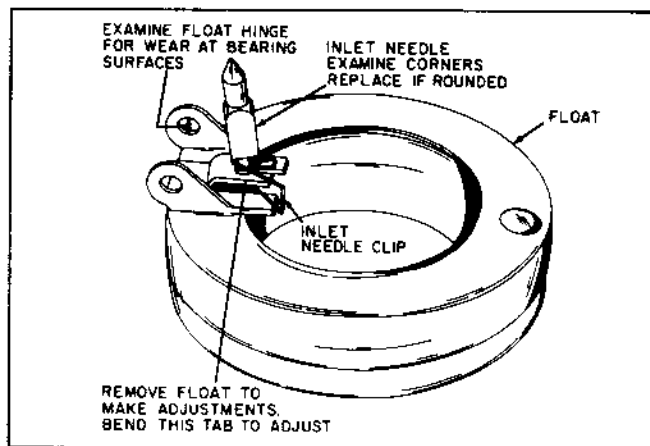
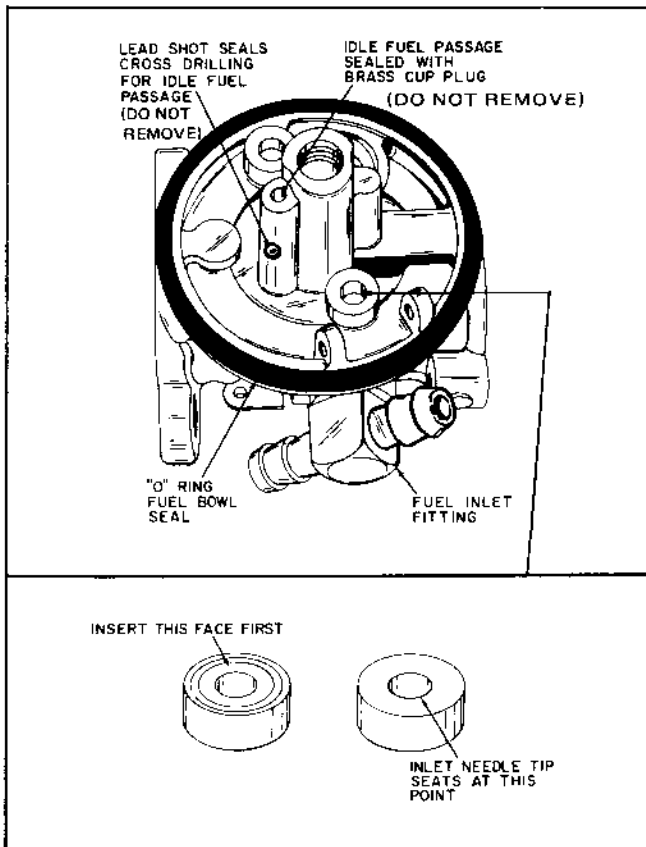

Figure 3-8. Float, Inlet Needle, and Clip
Figure 3-10
I. **FLOAT.** Remove the float (Figure 3-8) from the carburetor main body by pulling out the float axle with a pair of needle nose pliers.
- (1) Examine the float for crushing or holes. Examine the float hinge (Figure 3-8) bearing surfaces through which the float axle passes and replace if worn. Excessive wear on the tab of the float hinge that contacts the inlet needle will require replacement of the float to assure proper fuel metering within the carburetor.
J. INLET NEEDLE AND SEAT. (Figure 3-10). There is no inlet seat fitting to remove during disassembly. The inlet needle is anchored to the float tab by a clip, (Figure 3-8) to assure proper movement of the inlet needle off of the seat when the float drops. The inlet needle clip must be positioned as shown in Figure 3-8 and 3-12 during reassembly.
- (1) Examine the inlet needle. If any wear is evident, or any of the corners show signs of rounding, the needle should be replaced.
- (2) The inlet needle seals on a Viton rubber seat in the carburetor body. To remove, put a few drops of heavy engine oil on the seat. Place an air hose to the inlet fitting and allow a short blast of air to pass through blowing out the seat. The seat may also be pried out with a short piece of hooked wire. Examine for cuts and scratches. The seat (Figure 3-10) is inserted grooved side first. Moisten the cavity with oil and use a flat faced punch to press the inlet seat into position.